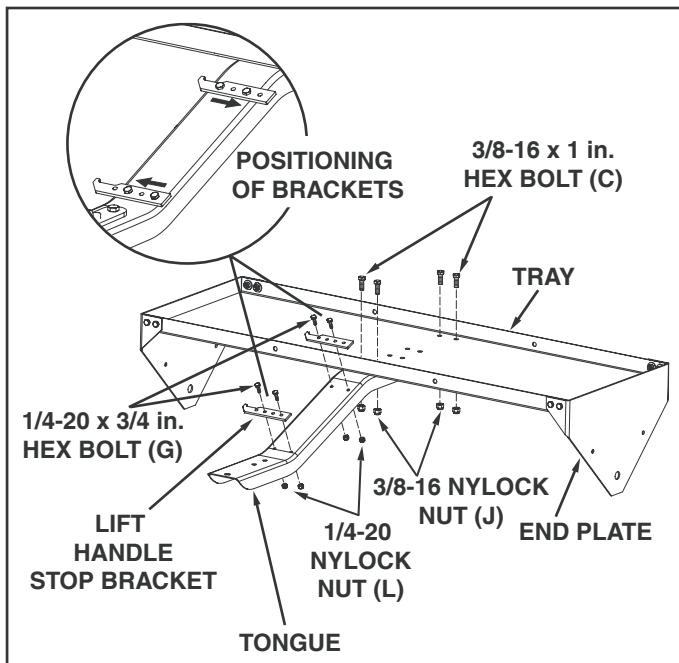

FIGURE 8
10. Fasten the lift handle stop brackets to the tongue in the positions shown using four 1/4-20 x 3/4 in. hex bolts and four 1/4-20 nylock hex nuts. See figure 8.
11. Assemble the tongue to the tray using four 3/8-16 x 1 in. hex bolts and four 3/8-16 nylock hex nuts. See figure 8.